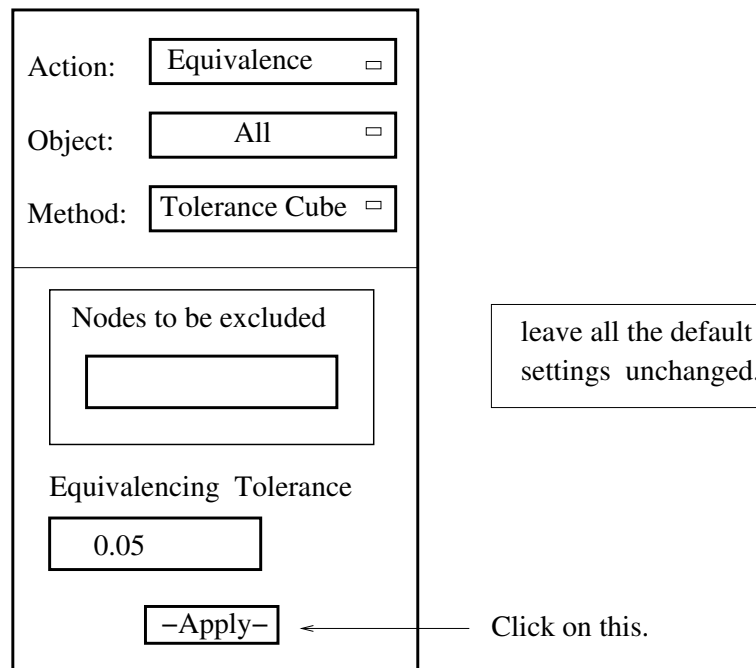

Figure 27: Equivalence the Nodes
- Click on **Create** and change it to **Equivalence**. See **Figure 27**.